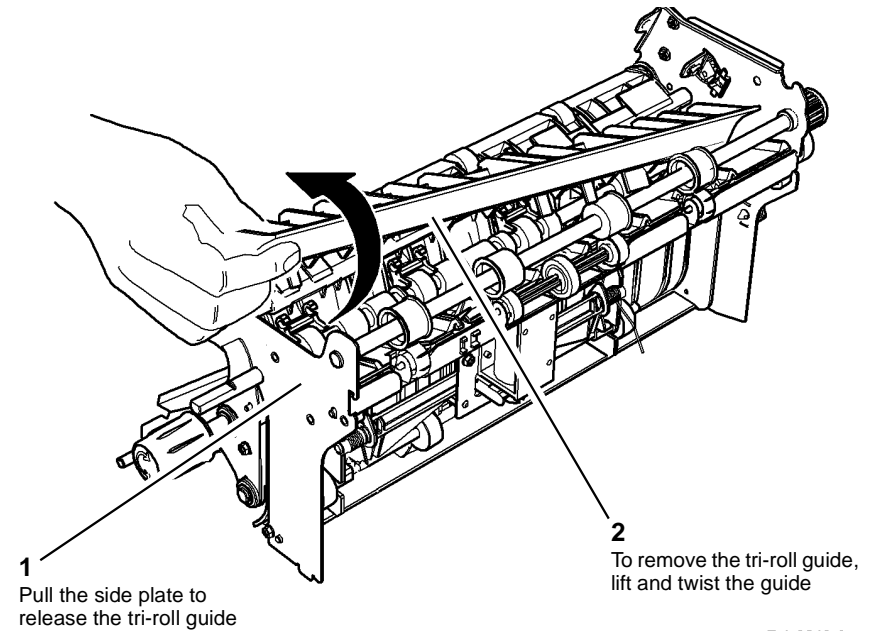

Figure 4 Tri-roll guide removal
- Remove the tri-roll guide, **Figure 4**.